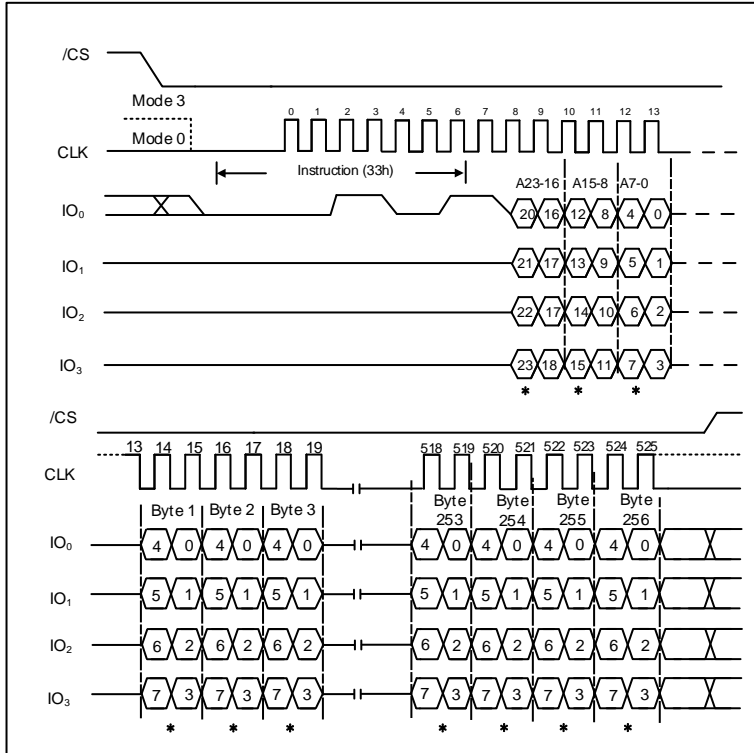

Figure 31. Quad Page Program Instruction (SPI Mode only)
The Quad Page Program (33h) instruction is similar to the Quad Input Page Program (32h) instruction except that address and data bits are both input and output through four pins IO₀, IO₁, IO₂ and IO₃. The Quad Page Program can improve performance for PROM Programmer and applications that have slow clock speeds <5MHz. Systems with faster clock speed will not realize much benefit for the Quad Page Program instruction since the inherent page program time is much greater than the time it take to clock-in the data. To use Quad Page Program the Quad Enable (QE) bit in Status Register-2 must be set to 1. The Quad Page Program instruction sequence is shown in Figure 31.